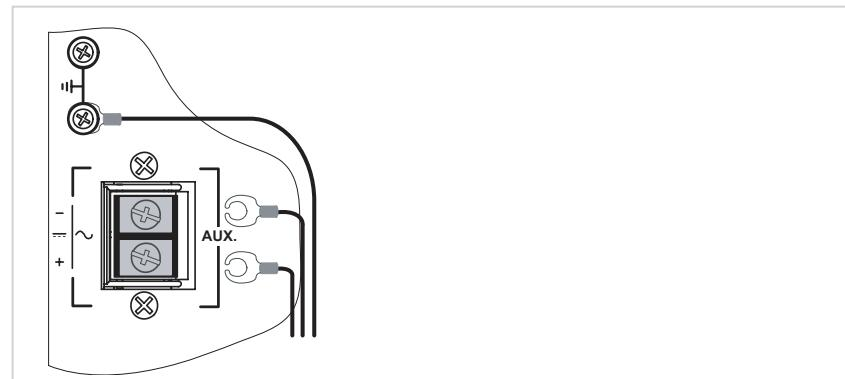

Figure 6: Auxiliary Power Connection
The SIBTF10xx-10x-MR switches support a redundant power supply. If the primary power source fails, the auxiliary power source supplies power to the industrial switch. To provide auxiliary power to the industrial switch, view Figure 6 and do the following:
2. Loosen the grounding screw and connect the power source functional-ground lead to the grown screw, as shown in Figure 6. Tighten the screw to secure.
3. Loosen the TB screw marked “-” and then connect the power source neutral or (-) negative lead to the TB negative terminal, as shown in Figure 6. Tighten the screw to secure.
4. Loosen the TB screw marked “+” and then connect the power source line phase or positive (+) lead to the TB positive terminal, as shown in Figure 6. Tighten the screw to secure.